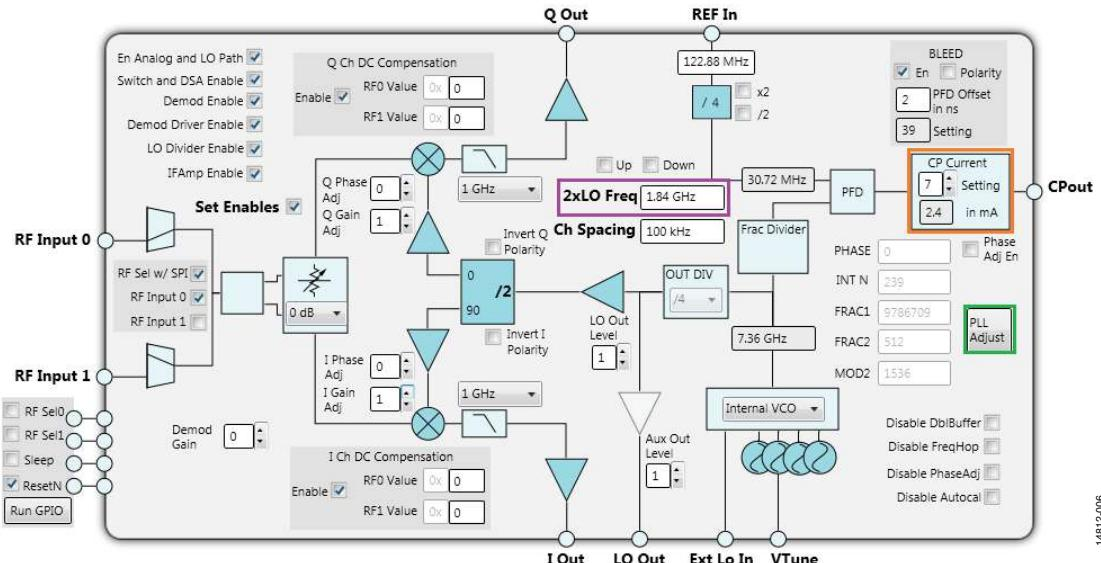

Figure 6. ADRF6821 Tab
3. From the ADRF6821 Board tab, double-click the ADRF6821 icon to open the ADRF6821 tab (see Figure 6). The ADRF6821 tab allows the user to configure the ADRF6821 in any desired configuration.
Figure 6 shows the **ADRF6821** tab, which displays the main controls required to configure the device.